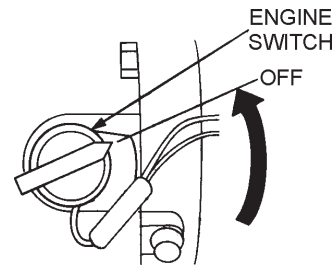

Figure 23. Engine ON/OFF Switch (OFF)
- Turn the engine ON/OFF switch to the "OFF" position (Figure 23).